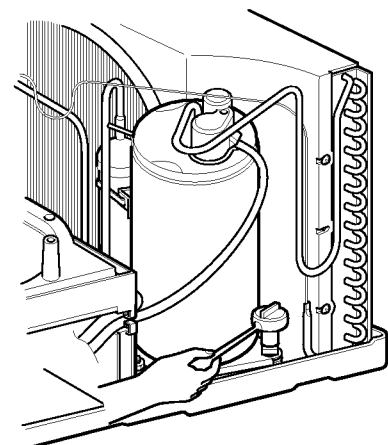

Figure 12
7. Re-install the components by referring to the above removal procedure. (See figure 12)